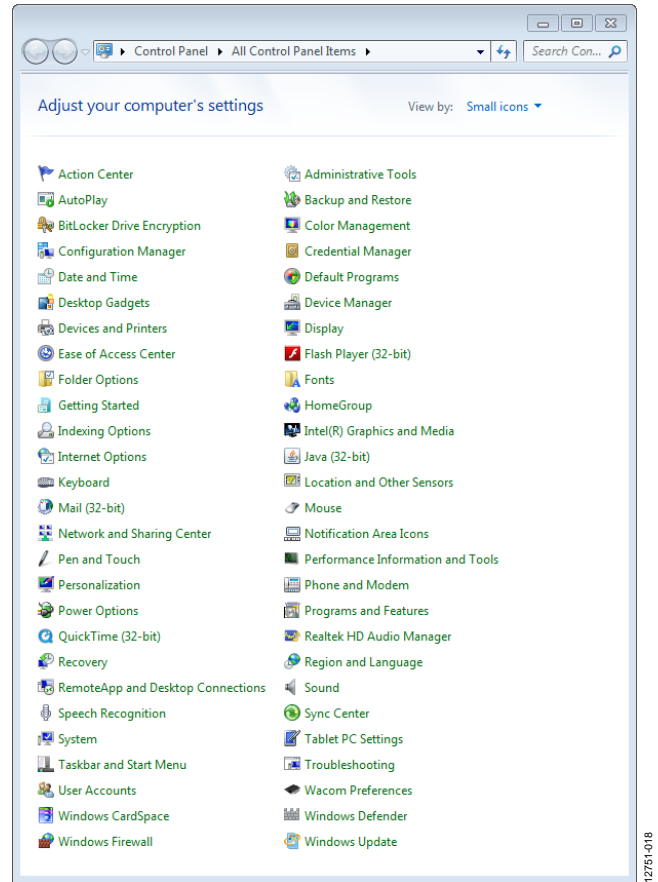

Figure 4. **Control Panel\All Control Panel Items** Window to Select **Device Manager**
2. To verify that the USB-SDP-CABLEZ installed properly, go to the **Start** menu, click **Control Panel**, then click **Device Manager** (see Figure 4). Note that Figure 4 is from Windows® 7.